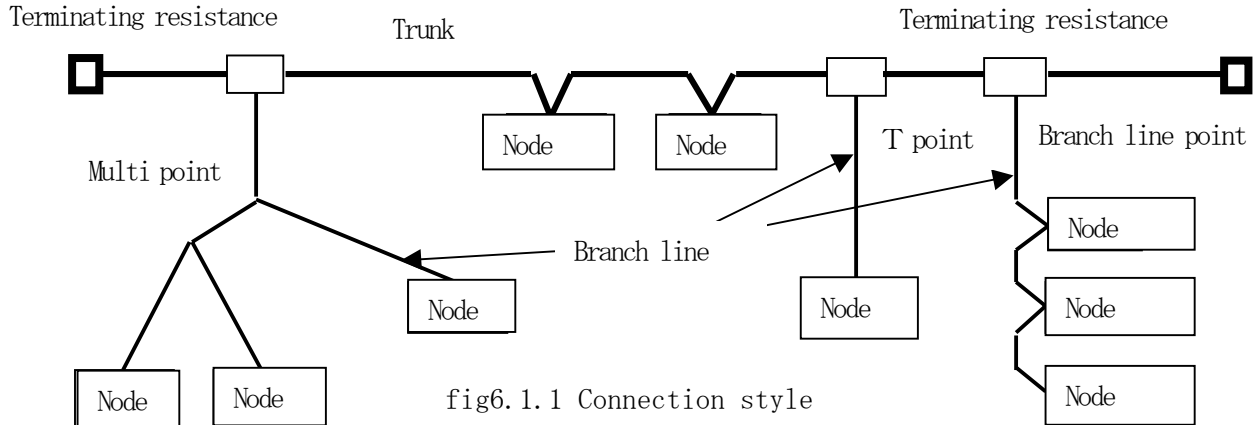

fig6.1.1 Connection style
- SI unit can connect at node position of fig.6.1.1.